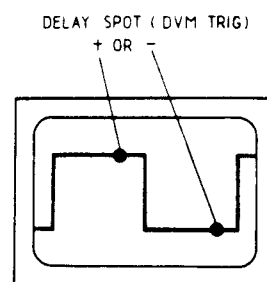

Figure 5-19
- Connect equipment as shown in Figure 5-18 with pulse gen. to ext. trigger. Set scope and pulse generator to produce a display as shown in figure 5-19.
- Trigger DVM about 20 ms after LEE 80 % (with scope delay — see figure 5-19).